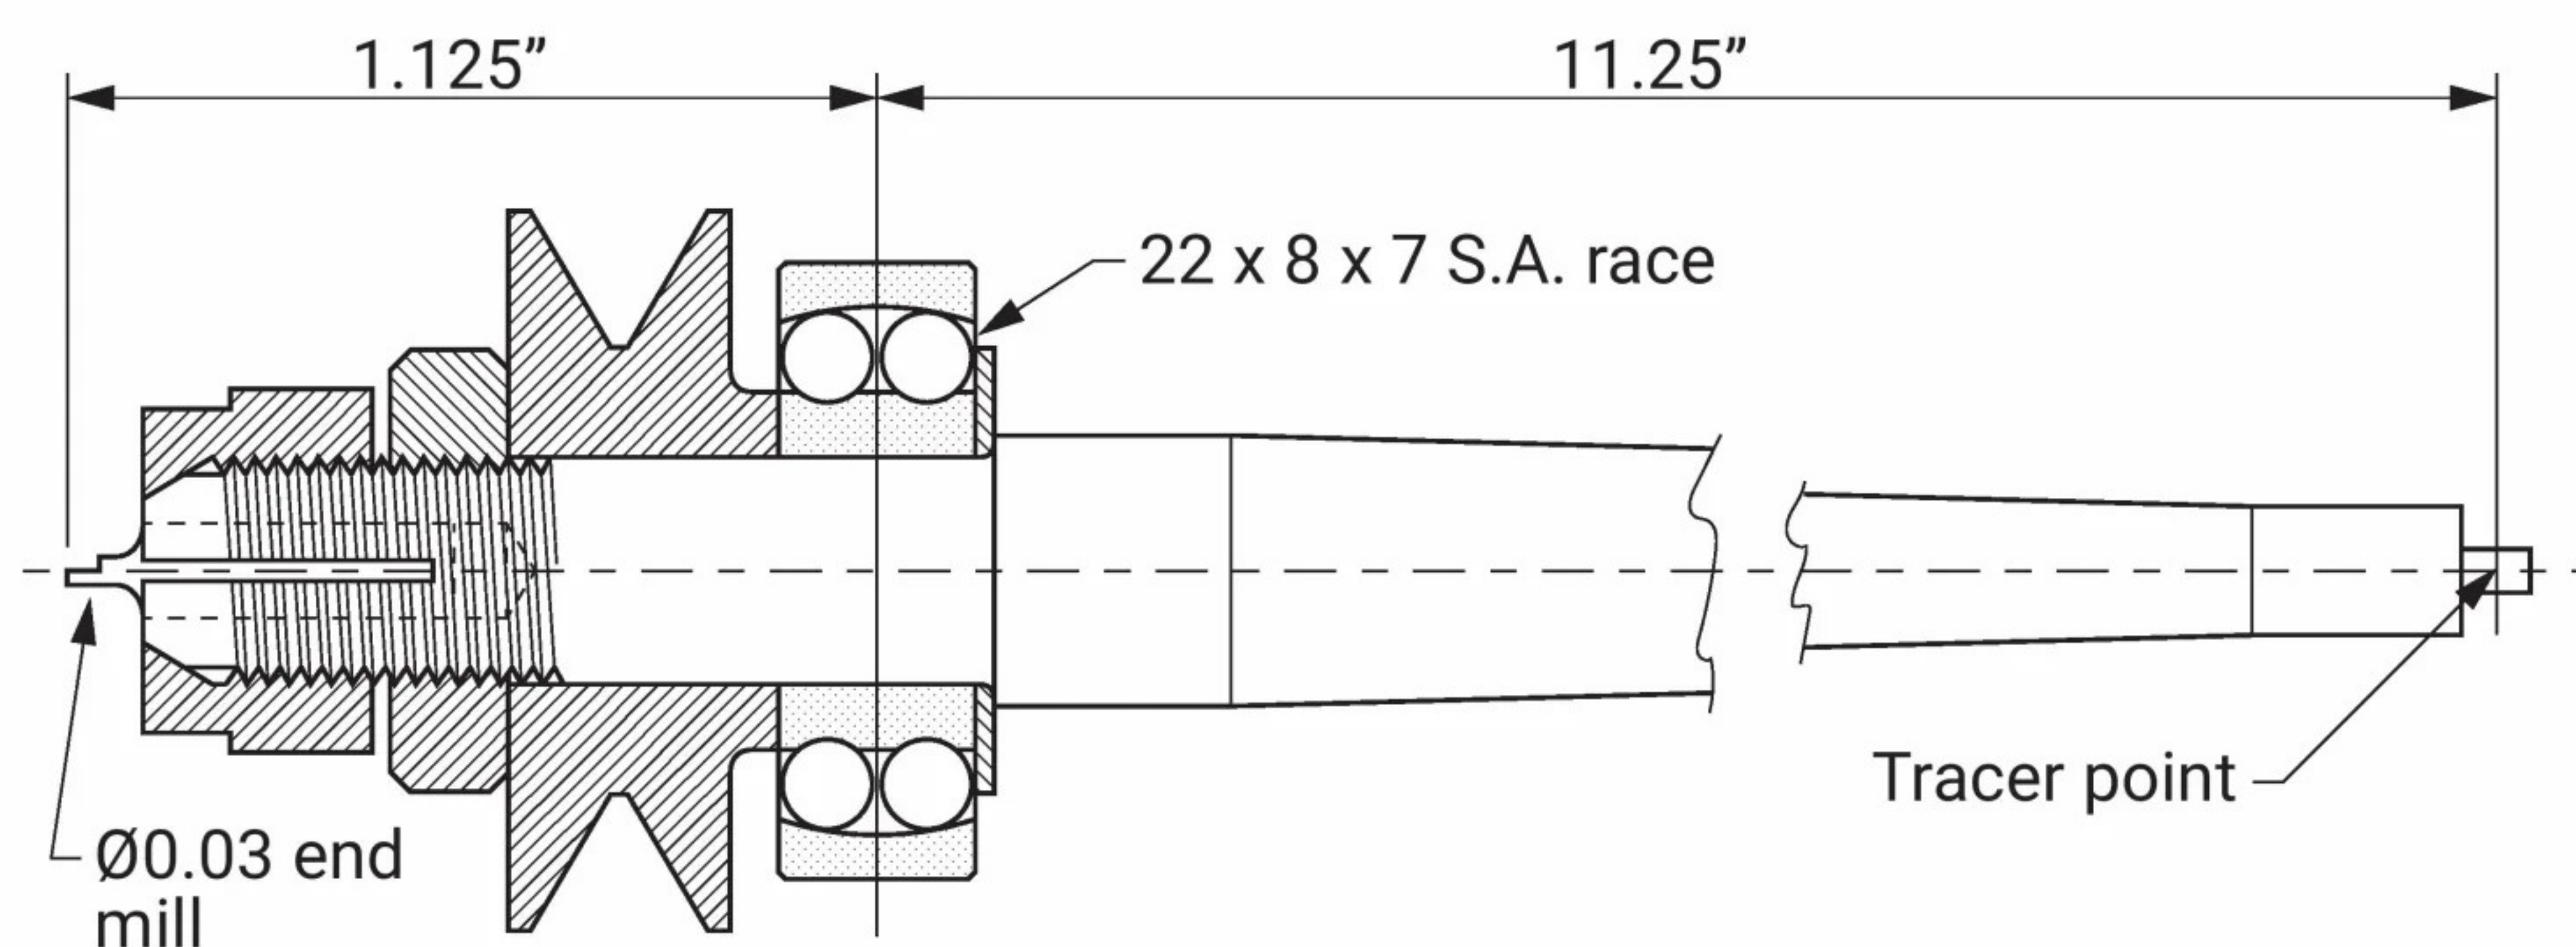

Figure 3
Prof. Chaddock was inspired by the turbines built by Mr. Elkin but he did not have the use of a pantographic engraver, so he devised his own much simpler and less 'clunky' blade milling device (photo 3 in Part 1 and **ref. 13**). In this, the single ball race in which the milling spindle rotated was of the spherical type and that allowed the orientation of the shaft to be changed. The bearing, **fig. 3**, was located 1.125 in. from the tip of the cutter which was held in a collet chuck on one end of the shaft. The other end of the shaft (the tail) was 11.25 in. from the bearing and was terminated by a small spigot. Thus, any movement of the tail-end was reflected in movement by the cutter tip, except the cutter movement was ten-fold smaller in extent and in the opposite direction to the tail's movement. Prof. Chaddock